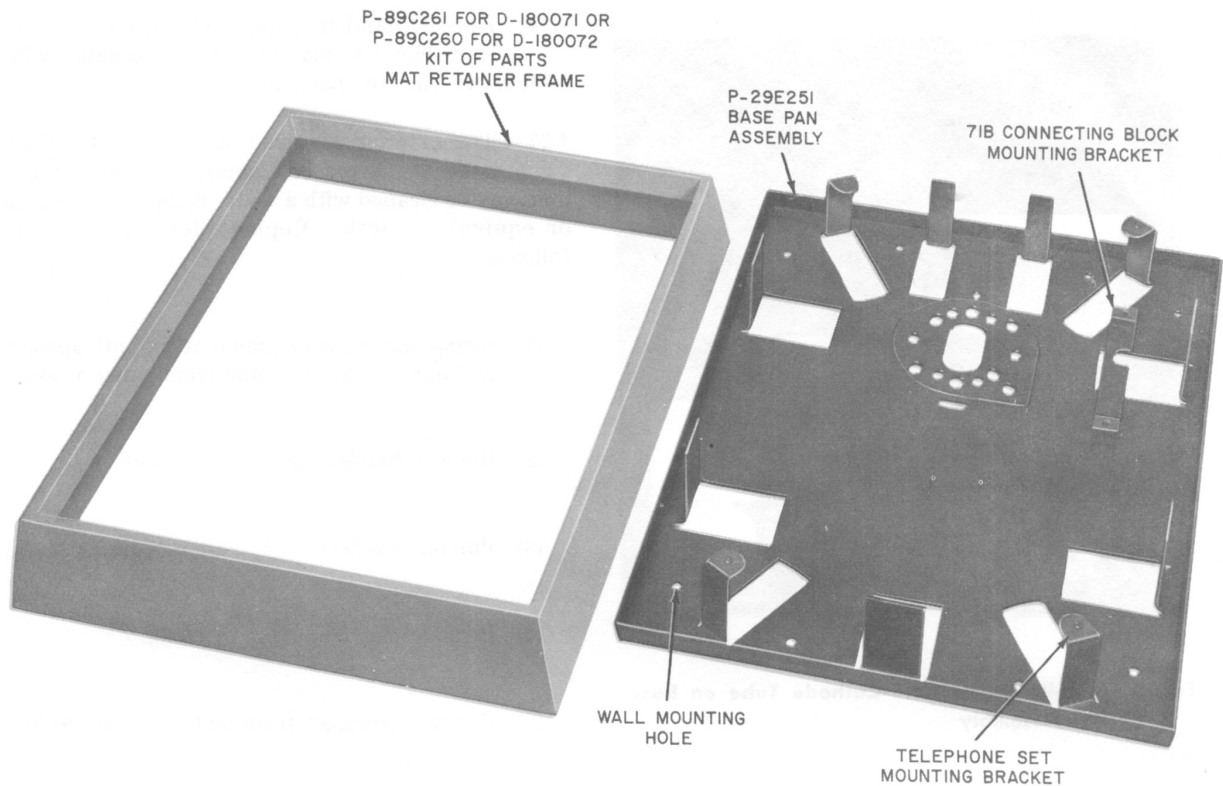

Fig. 3—D-180071 or D-180072 Kit of Parts for Surface Mounting
- (1) The D-180071 (light gray frame) or D-180072 (light beige frame) Kit of Parts, ordered separately, permits mounting these sets on the surface of a wall (fig. 3).
- (2) The base pan assembly is arranged for mounting on a 63A or KS-19407L1 bracket or a standard electrical outlet box.